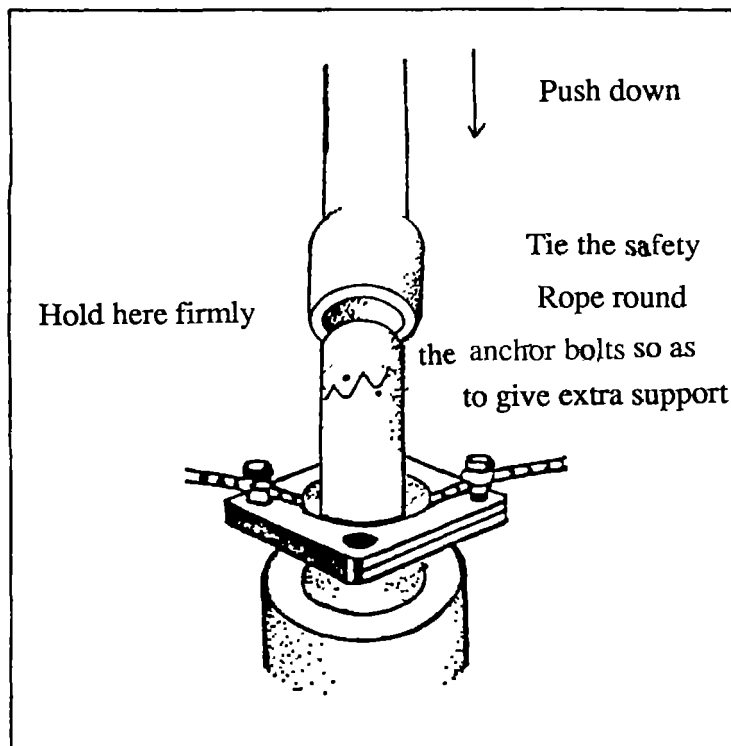

FIG 11. FIXING THE RISING MAIN.
8. Quickly assemble the two parts and wait for about 5 minutes for the gum to work. (See fig. 11)